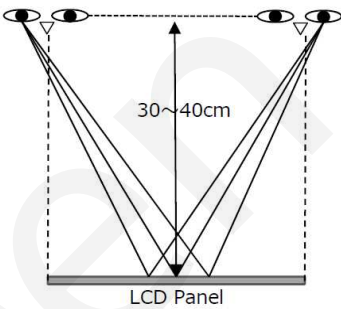

Fig. 9.2 Inspection condition for parcial non-uniformity
- 2) Partial non-uniformity from oblique angle especially optical chiecking (light leakage, white spot and etc.) should be inspected as Fig. 9.2.